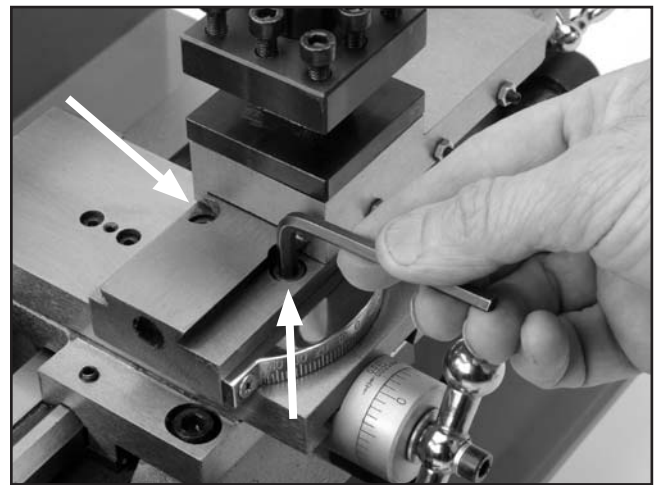

Figure 22. Compound slide bolts.
1. Loosen the compound slide bolts shown in **Figure 22** to allow it to be rotated.